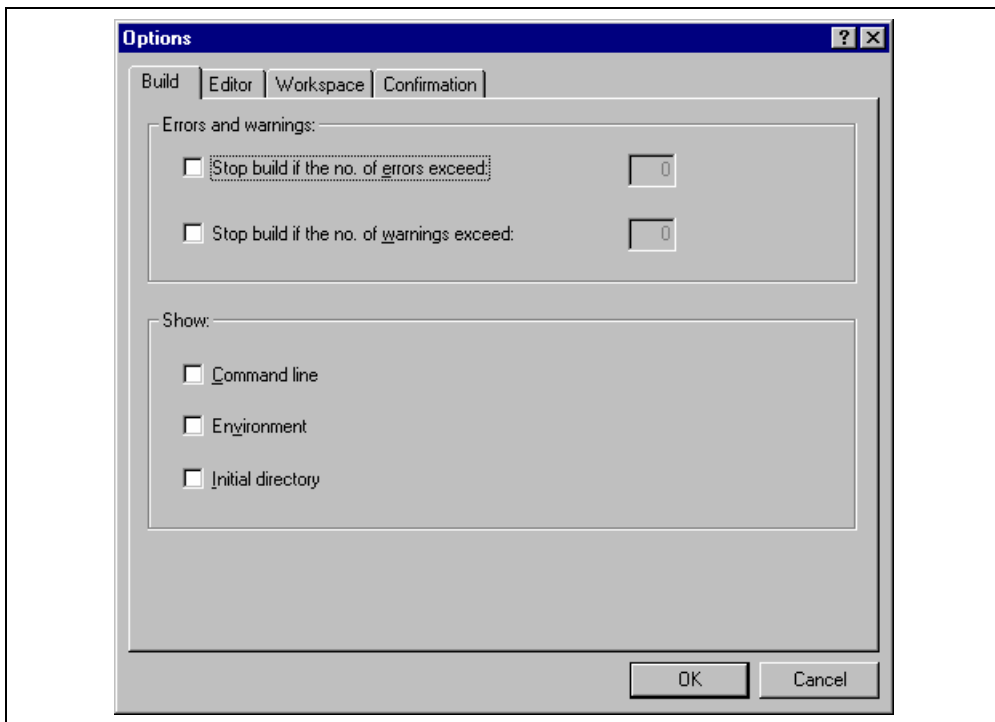

Figure 2.19: Options Dialog Build Tab
2. Select the “Build” tab (figure 2.19).